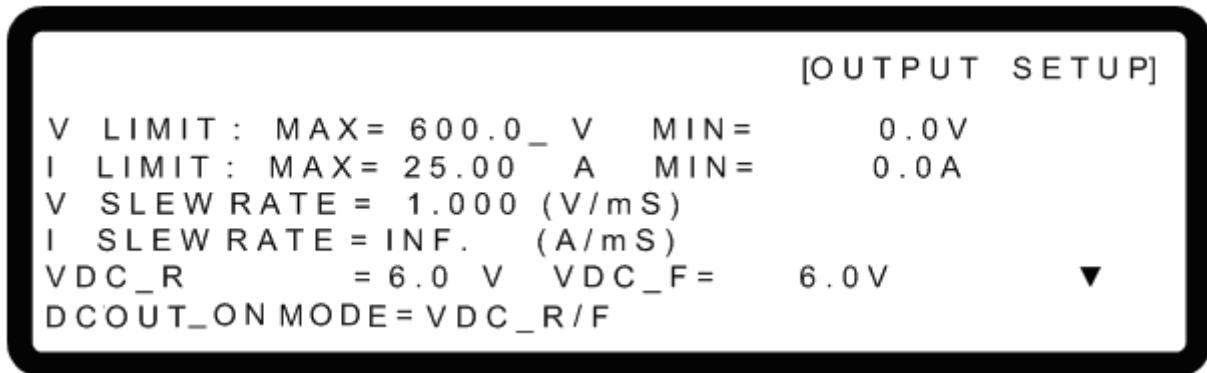

Figure 3-16
1. Use the “”, “” keys to move the cursor to the column to be set as shown in Figure 3-16.